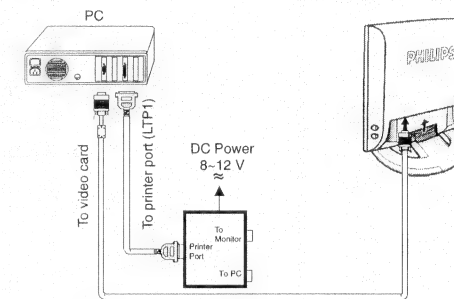

Fig. 3
- Step 2: Connecting printer cable and video cable of monitor as Fig. 3